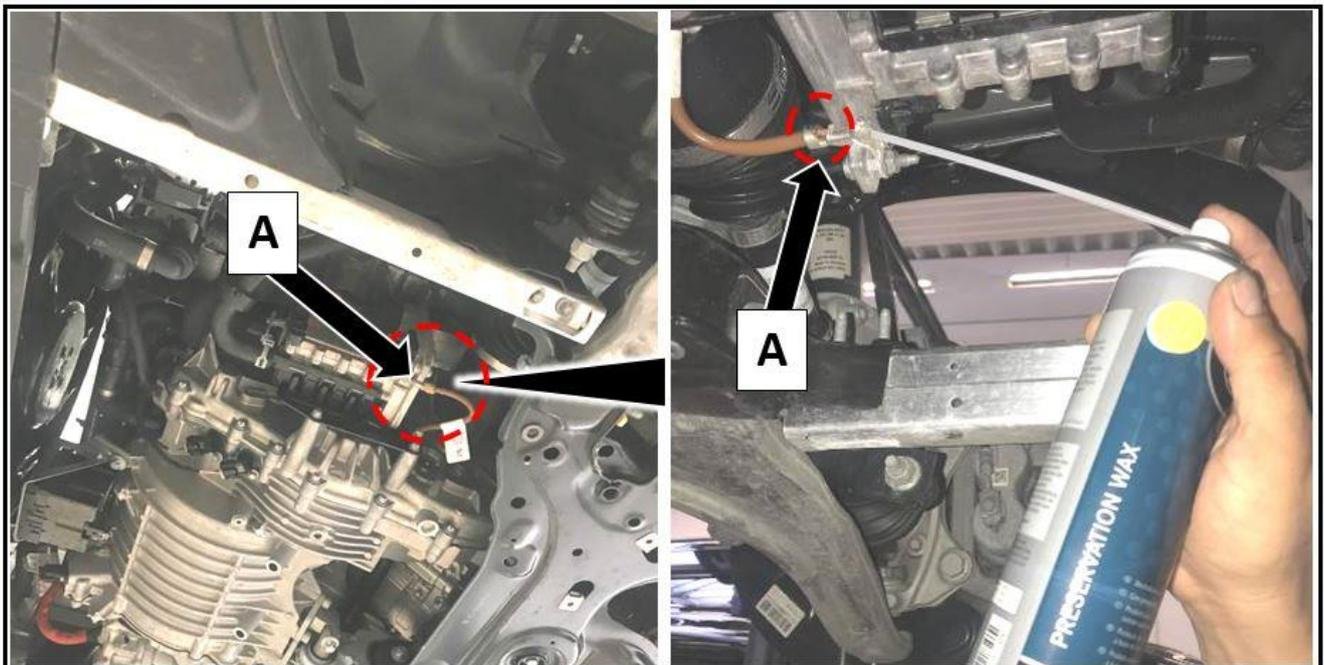

Figure 1
2. Apply a **generous** amount of spray wax to the ground line (A, Figure 1) on the high-voltage PTC heater so it coats all sides and surfaces of the connector.